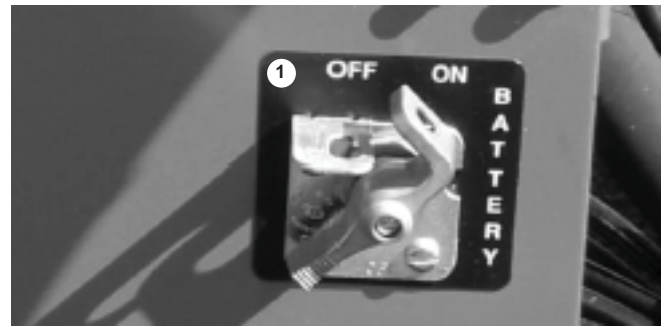

Figure 11.16
1. Set the battery switch (1) to on (see figure 11.16).